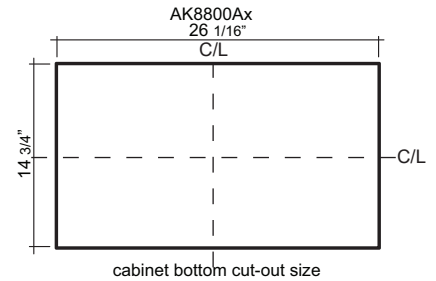

FIG 1
3. If no liner is used cut out an opening in the bottom of the cabinet by following the dimensions in (FIG 1).